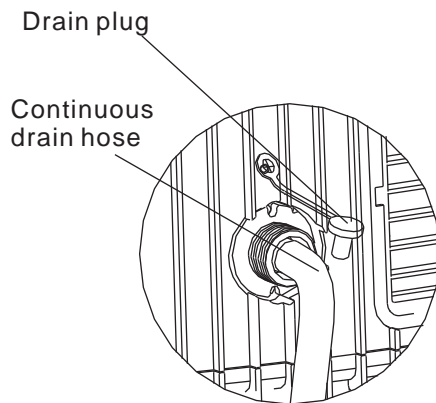

Fig.22
- Remove the rubber plug at the back of the unit and attach a hose to drain outlet. Place the open end of the hose directly over the drain area in your basement floor (See Fig.22 & 23).